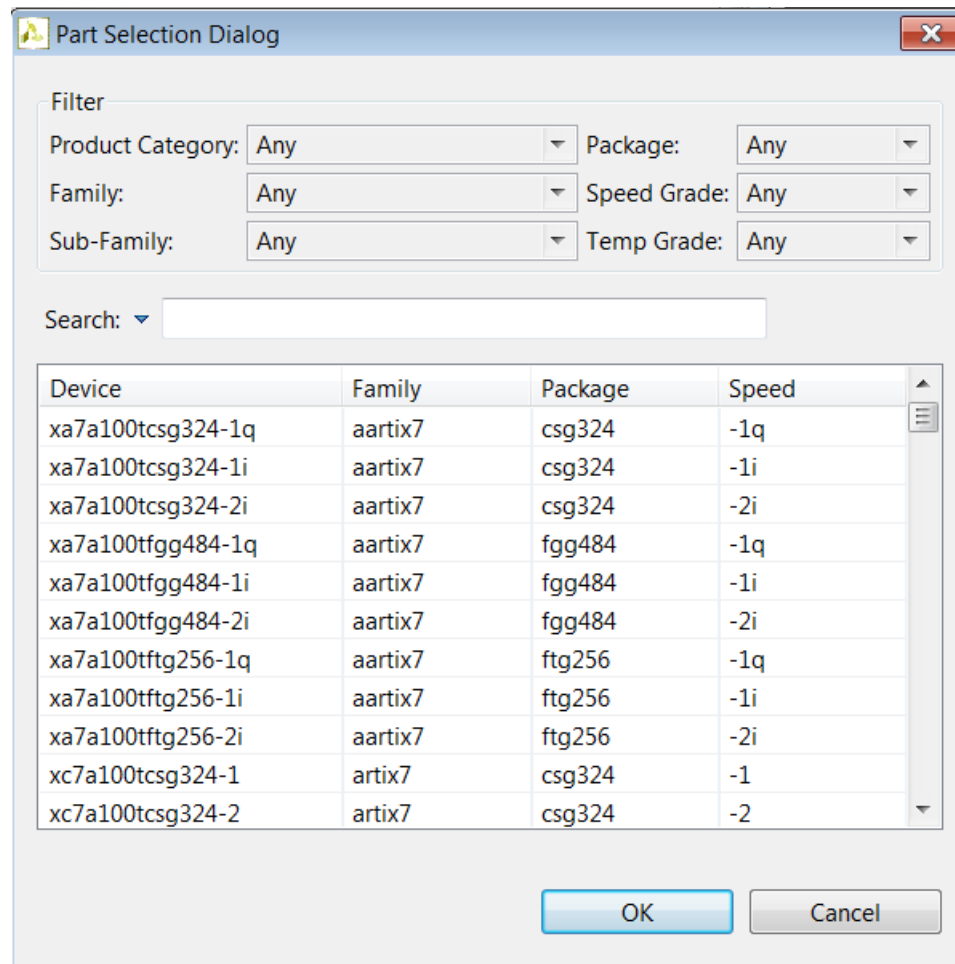

Figure 2-14: Part Selection
- **Part:** Press to select the appropriate technology (Figure 2-14).